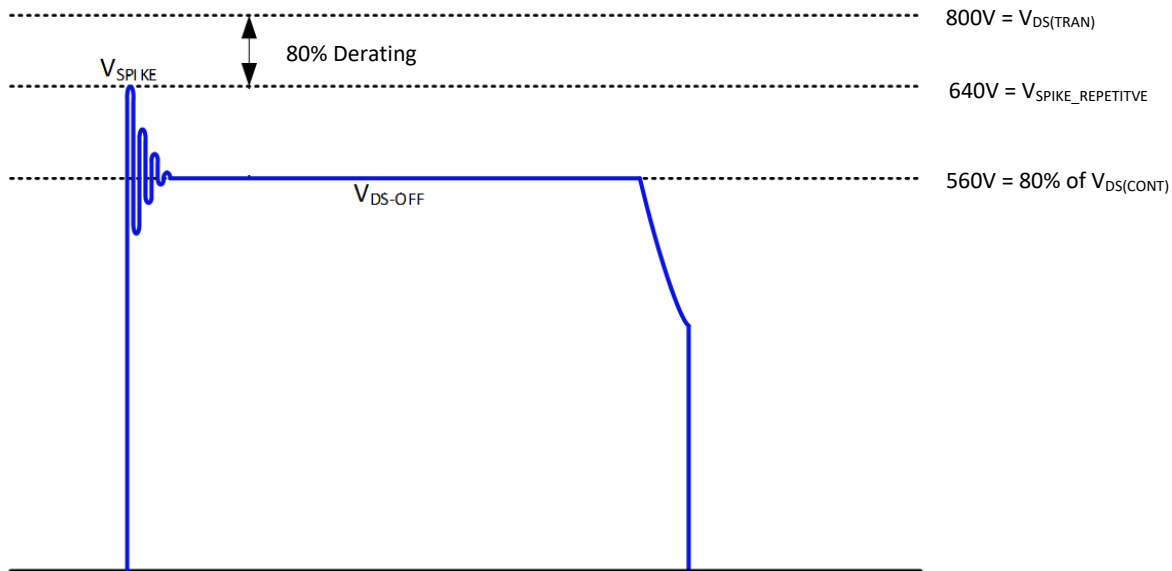

Figure 25. QR flyback drain-to-source voltage stress diagram
GaN Power ICs have been designed and tested to provide significant design margin to handle transient and continuous voltage conditions that are commonly seen in single-ended topologies, such as quasi-resonant (QR) flyback applications. The different voltage levels and recommended margins in a typical QR flyback can be analyzed using Figure 25. When the device is switched off, the energy stored in the transformer leakage inductance will cause V_{DS} to overshoot to the level of V_{SPIKE} . The clamp circuit should be designed to control the magnitude of V_{SPIKE} . After dissipation of the leakage energy, the device V_{DS} will settle to the level of the bus voltage plus the reflected output voltage which is defined in Figure 25 as V_{DS-OFF} .